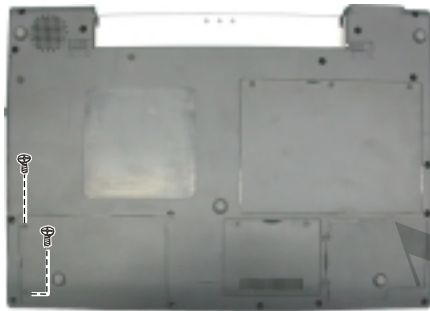

Figure 2-7 Remove the HDD compartment cover
2. Remove two screws fastening the HDD compartment cover. (Figure 2-7)